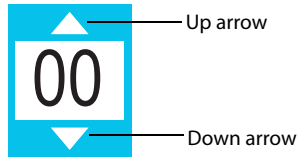

Figure 3-5 Configuring an Option
3. If an option can be configured, the choice place will have up and down arrows, as indicated in Figure 3-5.